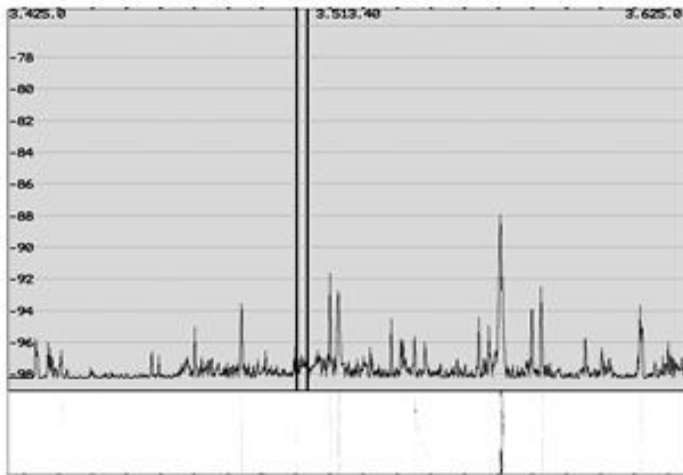

Fig 8 – 80M at K6GFJ – Noise floor -98 dBm
**Evaluating Equipment For Noise:** When someone tells you that XYZ equipment produces no noise on the ham bands because he can't hear any noise in his radio, should you believe that the equipment is clean? **NO!** The equipment may be noisy but he doesn't hear it because it is being covered by other noise from the neighborhood. Figs 8 and 9 compare the daytime 80M spectra at K6GFJ in a San Jose residential neighborhood and K9YC 30 miles to the south in the Santa Cruz Mountains. The difference in the noise floor is 10 dB. And it's certainly not dead quiet in the mountains, either – everything on the displays from both QTHs is noise from either switching power supplies or other electronic sources.
**Typical Plasma TV Noise Spectra** are shown in Figs 12 and 13 (K6GFJ) and Fig 14 (K7PI). K6GFJ's data is from his K3/P3/SVGA fed by a low dipole, and looking at his own NEC PlasmaSync 50MP2 TV. The bottom of each of the amplitude displays is the noise level at Ross's QTH in a San Jose residential neighborhood. Fig 8, from K7PI's SDR, shows a wider spectrum for his neighbor's plasma TV. Note that the spectra will be strongly dependent on which of the dozen or so common DTV video standard signals are being viewed at the time. There's more spectral data for plasma TV RFI at [k9yc.com/publish.htm](http://k9yc.com/publish.htm)